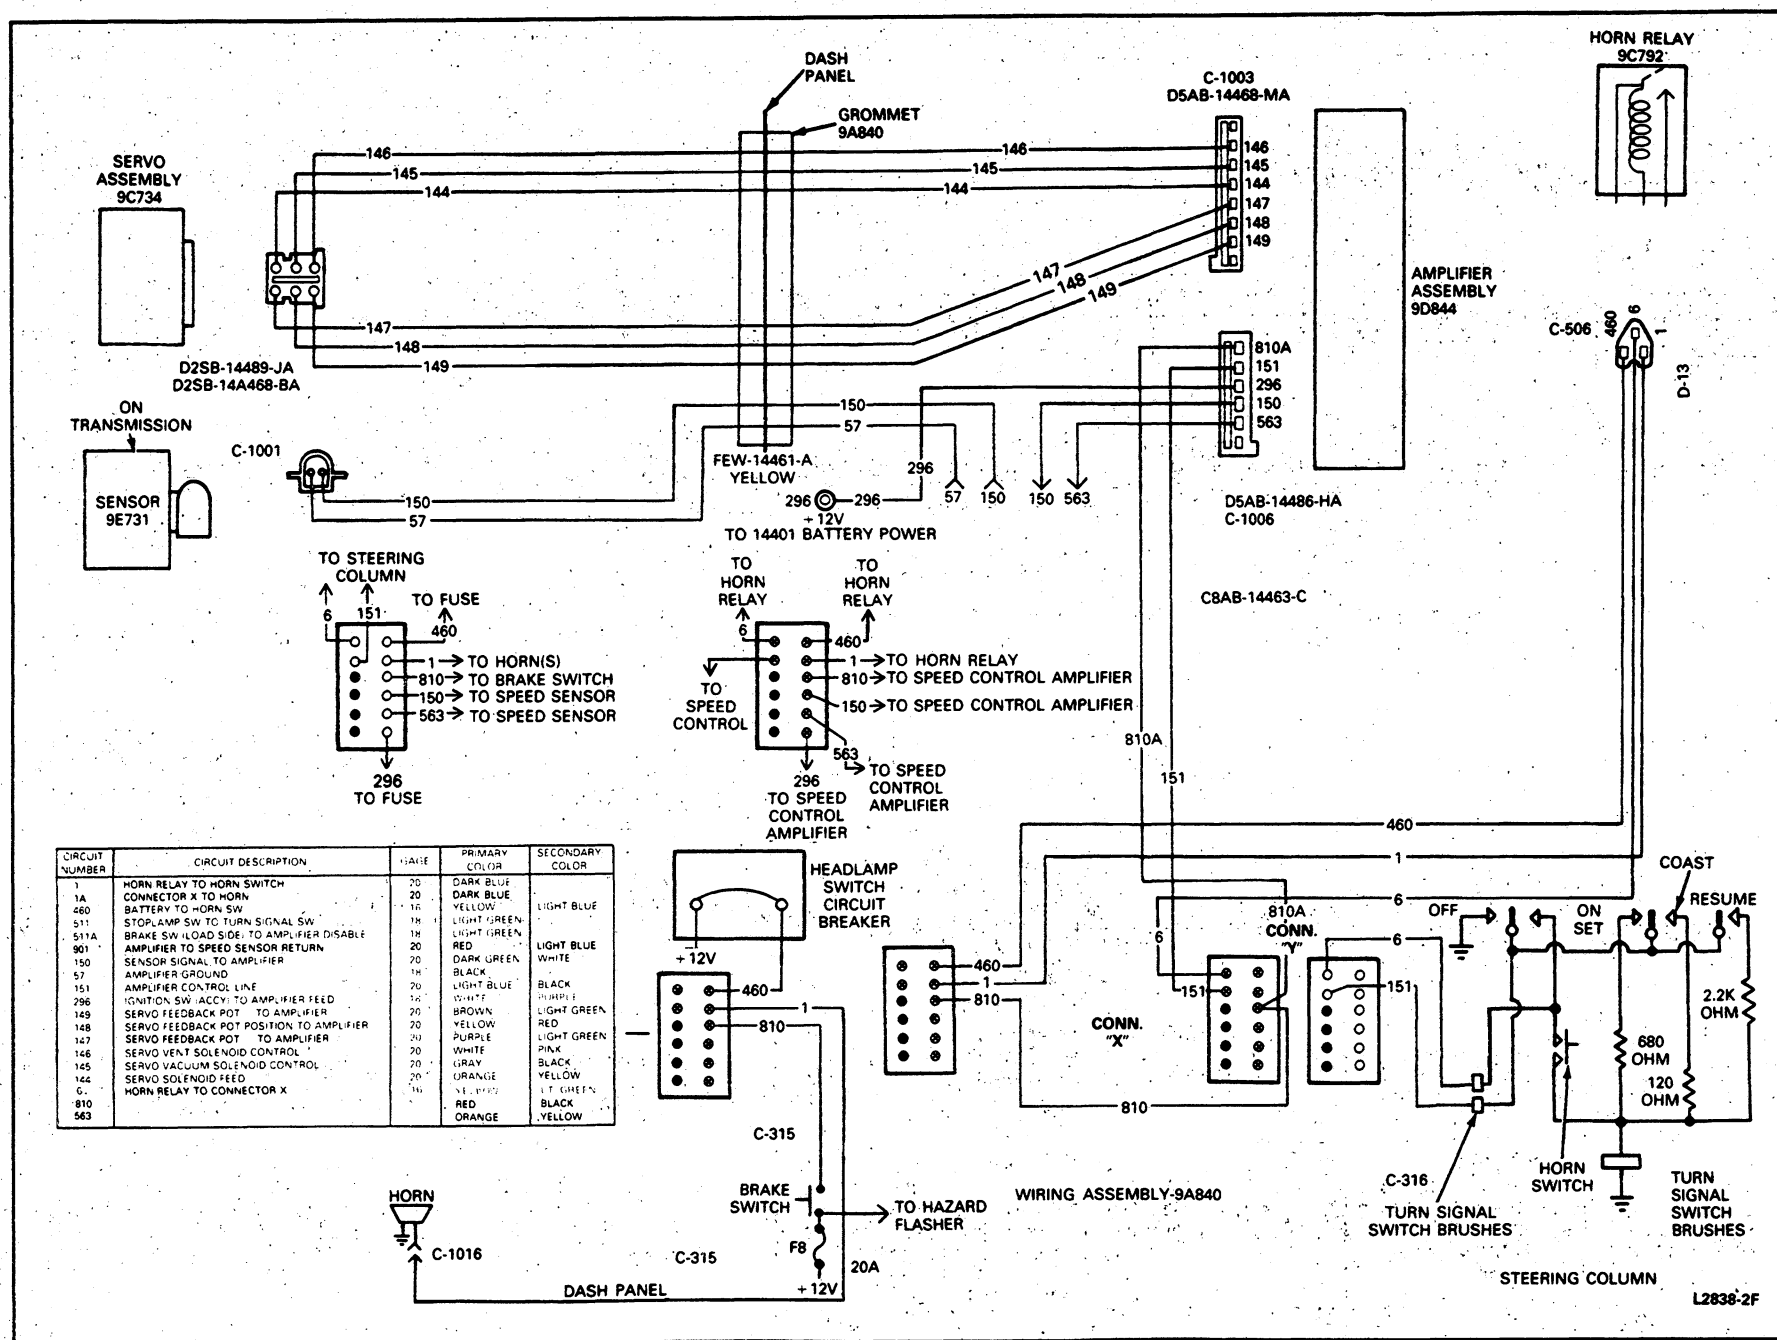

FIG. 6 Wiring Diagram—E-150—E-350
1. Check for battery voltage at the lead (light blue-black) when the ON switch is depressed. Battery voltage should be available at the lead (light blue-black) coming from the control switches. (Refer to the wiring diagram, Figs. 6 through 9.)
2. Connect an ohmmeter such as Rotunda Digital Volt-Ohm-Meter 007-00001 or an equivalent between the light blue-black wire (151) and ground. Check the wire for continuity to ground (0-1 ohm) when the OFF switch is depressed. If a resistance higher than 1 ohm is found, the wiring, slip rings, the copper brushes in the turn signal switch, or the switch is at fault, or the steering column is not